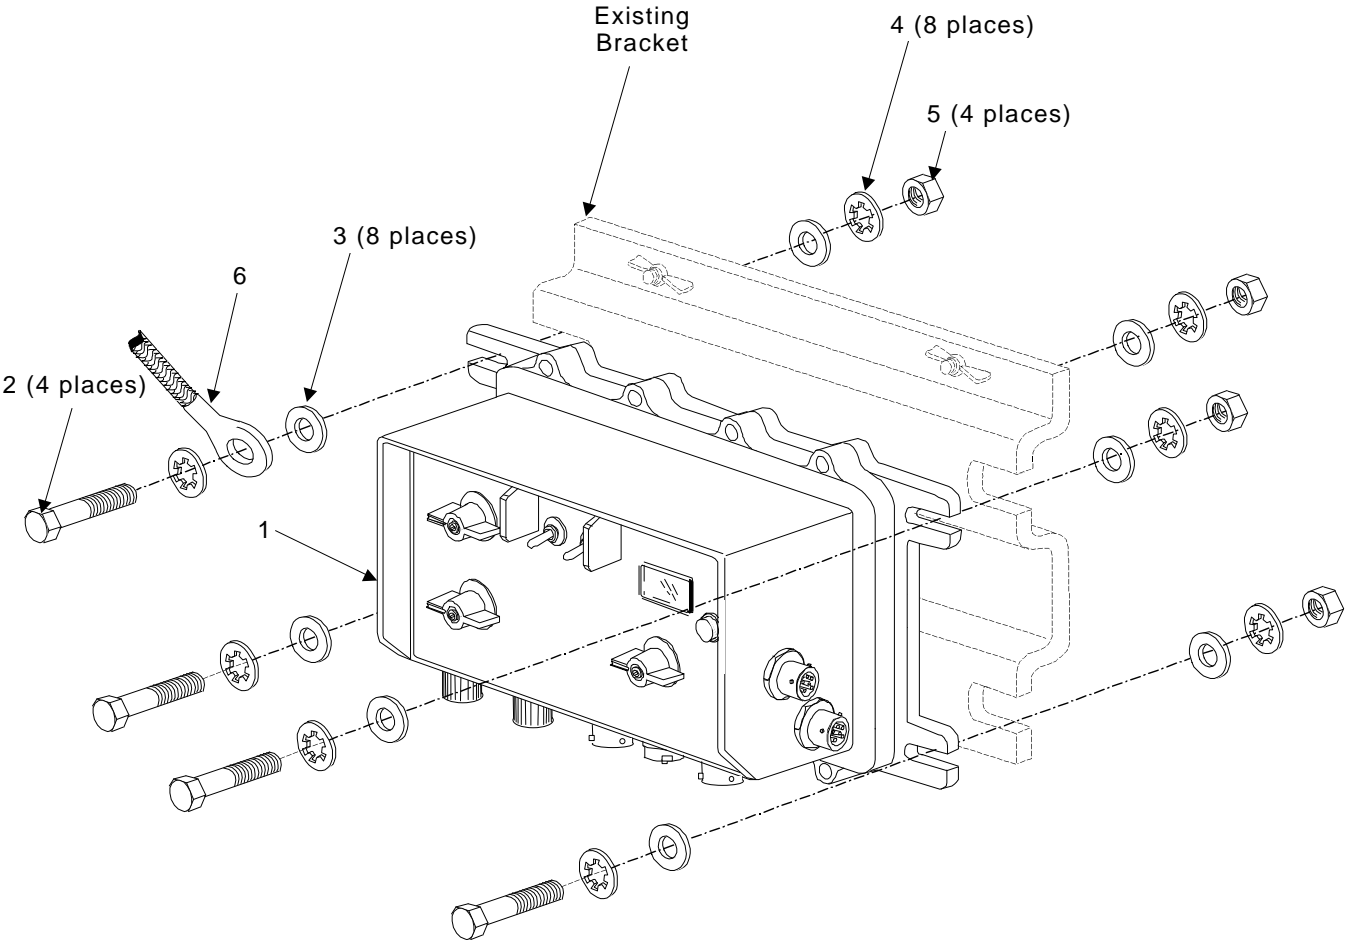

Figure 4-3. MCS Installation
- a. Install and secure the MCS to the existing equipment rack bracket in the sequence(s) shown in Figure 4-3 using the parts listed in Table 4-1 and the following tools: